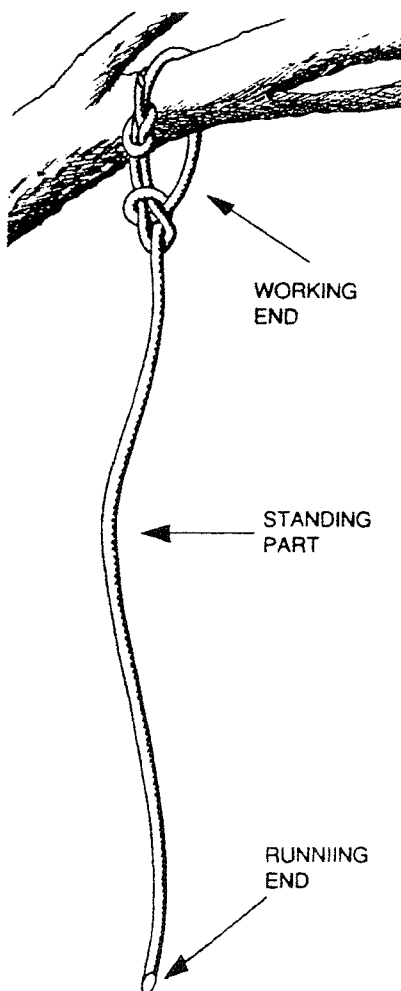

Fig. 3-5. Rigged rope parts.
**The Standing Part of the Rope.** Includes all the rope that is not fastened at the rigging point (fig. 3-5).
**The Running End (or End).** Refers to the end that is not rigged or the free end (fig. 3-5).
**The Working End.** The end that is used to rig with or tie off to something (fig. 3.5).